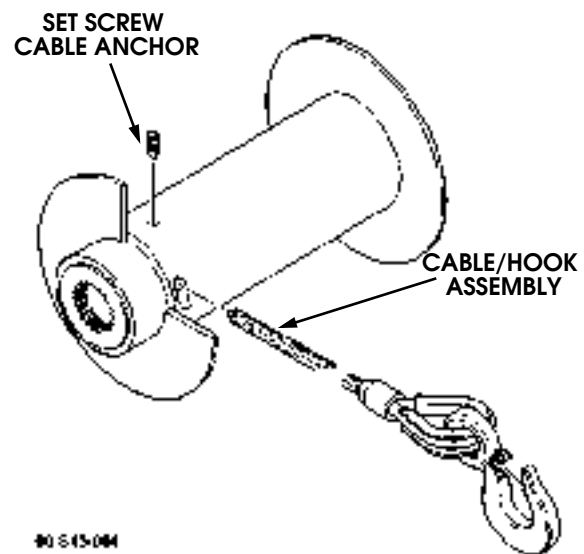

Figure 13-4: Winch Cable
2. Remove set screw and winch cable/hook assembly from drum assembly (Figure 13-4).